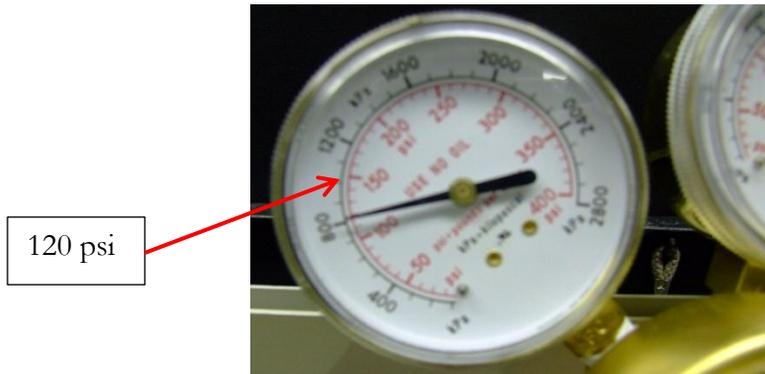

Figure 8
- Open the valve at the gauge by turning in a clockwise direction until the gauge reads 120 psi (the red-numbered section, see Figure 8).